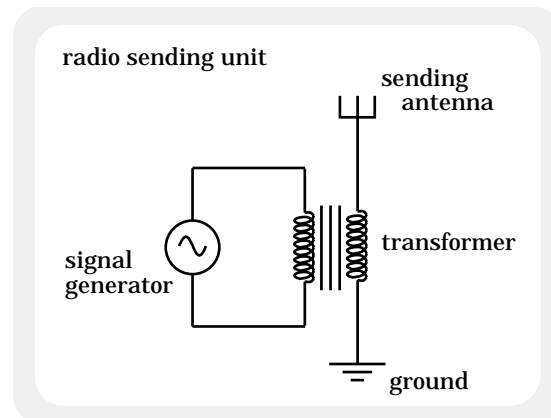

FIGURE 21.10
Note: A simplified circuit for a radio sending unit is shown in Figure 21.10. A discussion of its workings is presented below:
4.) Looking back at Figure 21.10, we see a single frequency oscillator, a transformer for transferring the signal to the antenna, and a grounded antenna (the grounding is needed to allow charge to freely flow onto and off of the antenna).